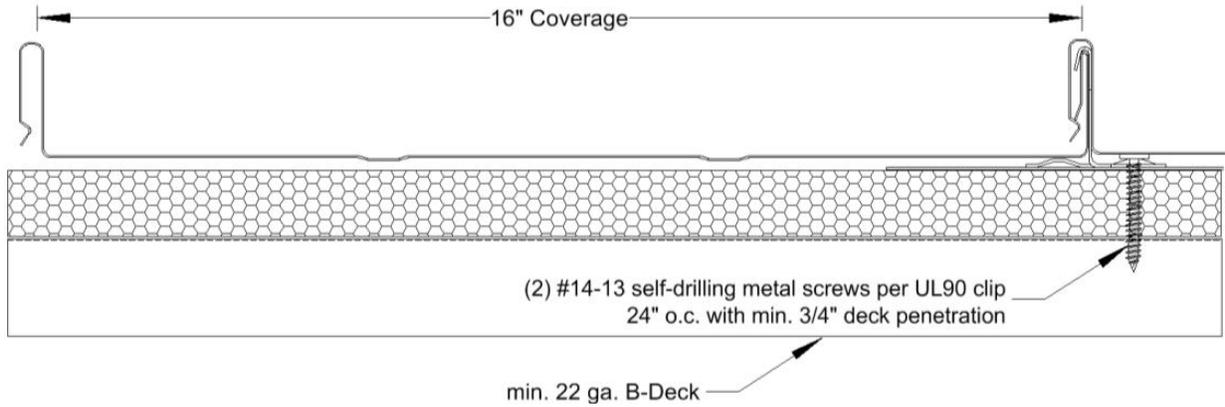
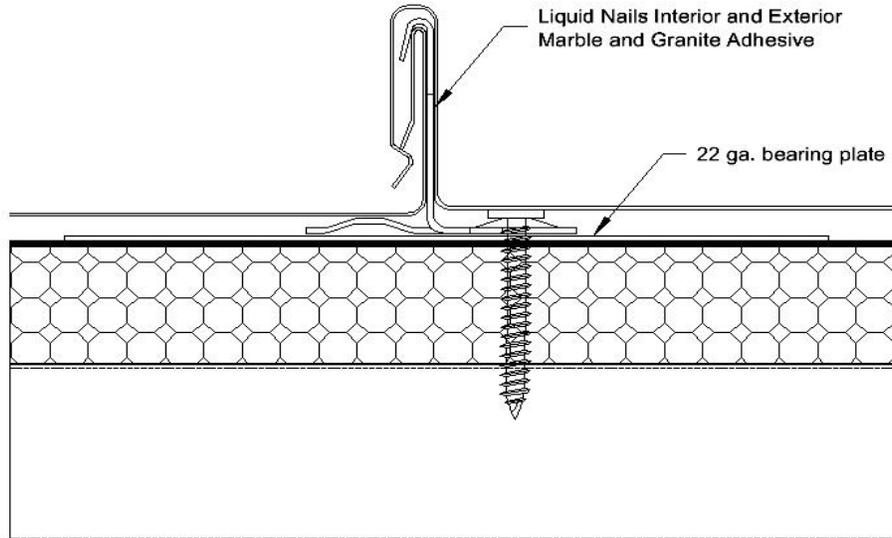

Figure 1: Verti-Lok panel detail for System 1
Figure 3: Verti-Lok panel lap detail
Attachment of Panels to Steel Deck: The metal panels are secured to the roof deck with 3" x 1" x 2", 18 gauge UL 90 clips with 6" x 6", 22 gauge bearing plates. The plates are fastened to the deck with two (2) No. 14-13 x 3" long self-drilling pancake head screws per clip. Refer to Figures 1 and 2 for panel profile and clip detail. In addition to the clips, Liquid Nails Interior and Exterior Marble and Granite Adhesive are applied in a $\frac{1}{4}$ " bead along the backside of the male lap. Refer to Figure 3 for lap detail with adhesive.